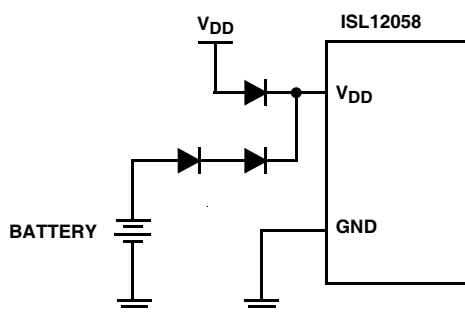

FIGURE 3. PROTECTION CIRCUIT WITH THREE DIODES
For example, the ISL12058 does not offer a battery switchover feature but an application requires it. The battery backup function can be added simply by connecting both main supply and backup battery to the  $V_{\text{DD}}$  pin. To have proper protection, a diode is placed in series with the main supply and two diodes are placed in series with the battery. The diode in series with the main supply is to block current from the battery into the main supply. Two diodes in series with the battery are to prevent reverse charging. The second diode is used to provide protection in the event that one should fail. Figure 3 shows the actual circuit with three diodes protection.
- B) Intersil devices that require two diode in series (Figure 3) for UL requirements: ISL12057, ISL12058, ISL12059.